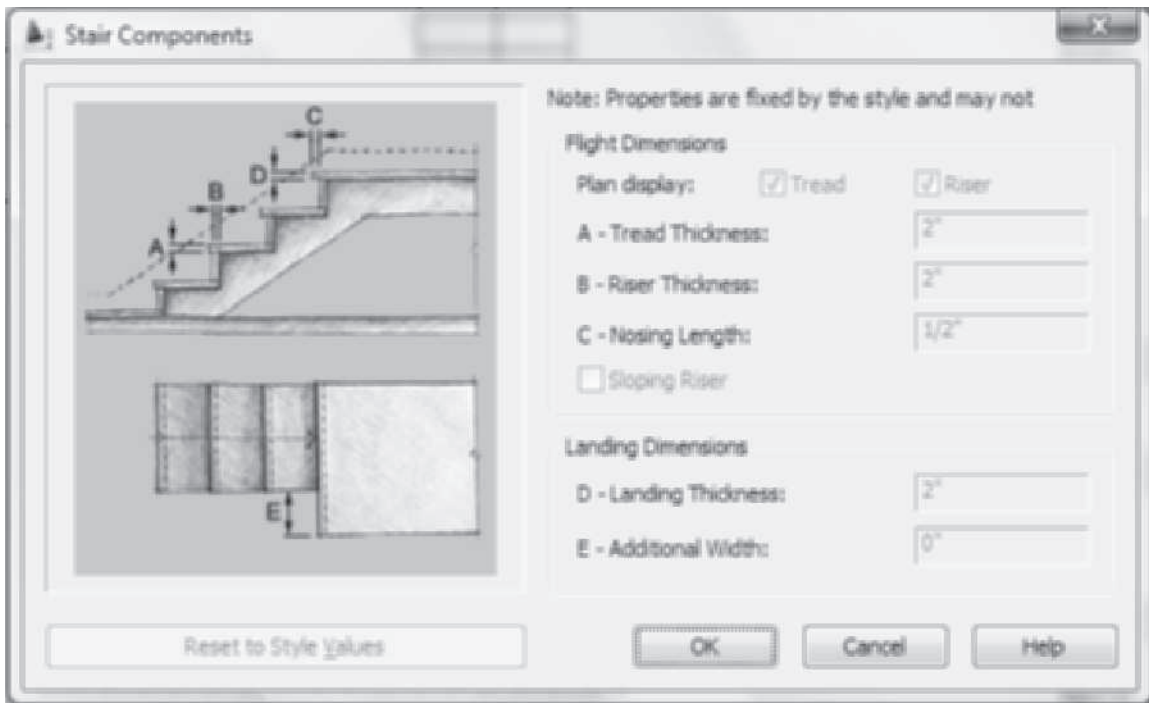

FIGURE 9.8 Inactive Stair Components dialog box
28. Select the straight stair D. Scroll if necessary to the Worksheets section of the Advanced section. The Worksheets sections provide the edit of Stair Components and Landing Extensions as shown in Figures 9.8 and 9.9. If Allow Each Stair to Vary are toggled ON in the Components tab of the Stair Style dialog box, the worksheets can be edited.